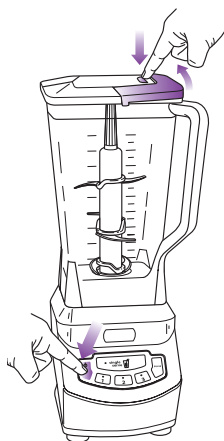
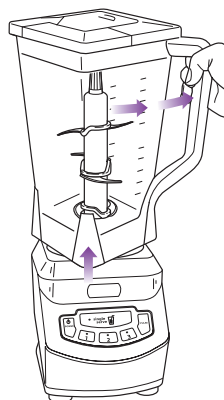

Fig. 7
Fig. 8
- 9** When you have reached your desired consistency, stop the appliance by pressing the power button (b) and wait for the attachment to stop turning. (Fig. 7)
- 10** To remove the lid, pull the lid handle up to a 90° angle. Turn the bowl clockwise to lift off the base. (Fig. 7, Fig. 8)